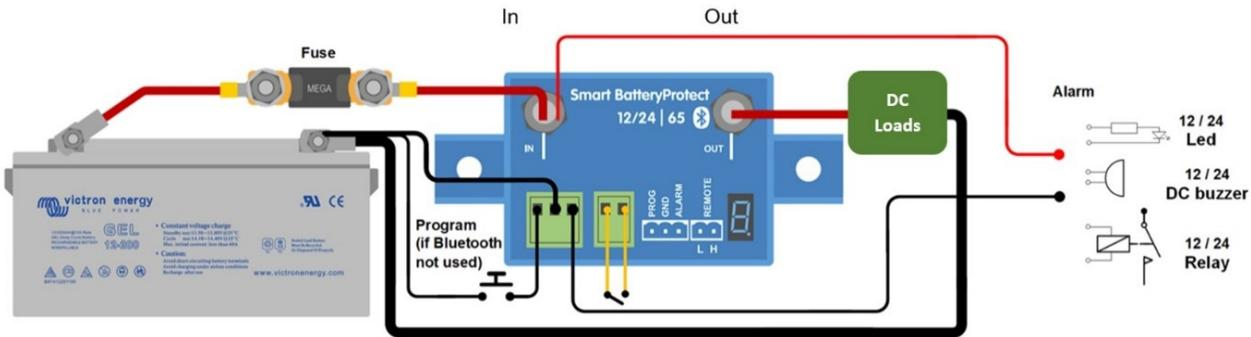

Figure 1: Connection diagram of the SBP-65 (use the remote input for system on/off functionality)
- A remote on-off switch can be connected between Remote H and Remote L (see figure 1).
- A buzzer, LED or relay can be connected between the alarm output terminal and the battery positive (see figure 1).